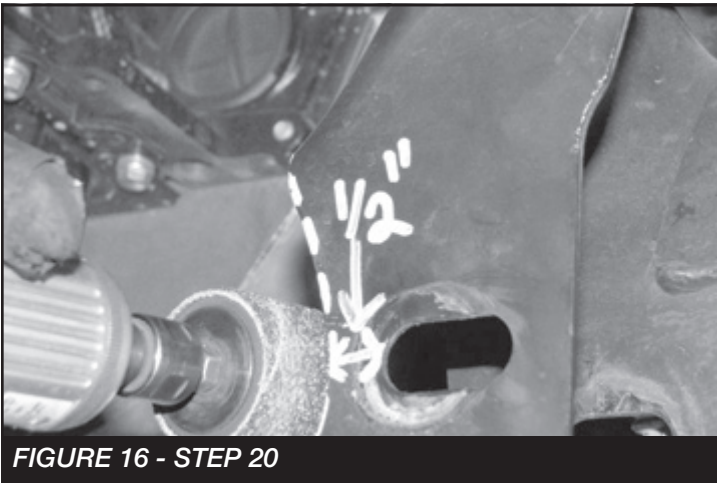

FIGURE 16 - STEP 20
20. Still working on the driver side rear lower control arm pocket, locate the tab on the pocket closest to the front of the vehicle. You will need to sand a radius in the front side of the pocket in order to clear the differential housing. **SEE FIGURE 16**